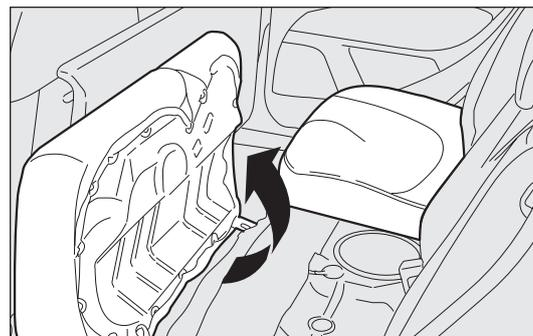

fig. 92
### Partial extension (1/3 or 2/3) fig. 92 (for versions/markets where provided)
- tilt the cushions forward as shown by the arrow fig. 92;